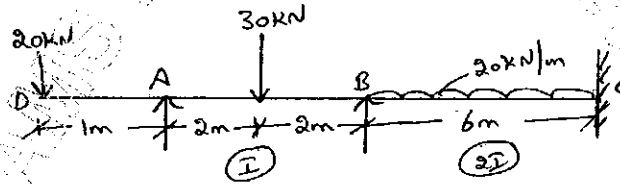

Fig.Q3
- 3 Analyze the continuous beam by moment distribution method shown in Fig.Q3. The support 'B' sinks by 10 mm. Take $EI = 4000 \text{ kN-m}^2$. Draw BMD and EC.